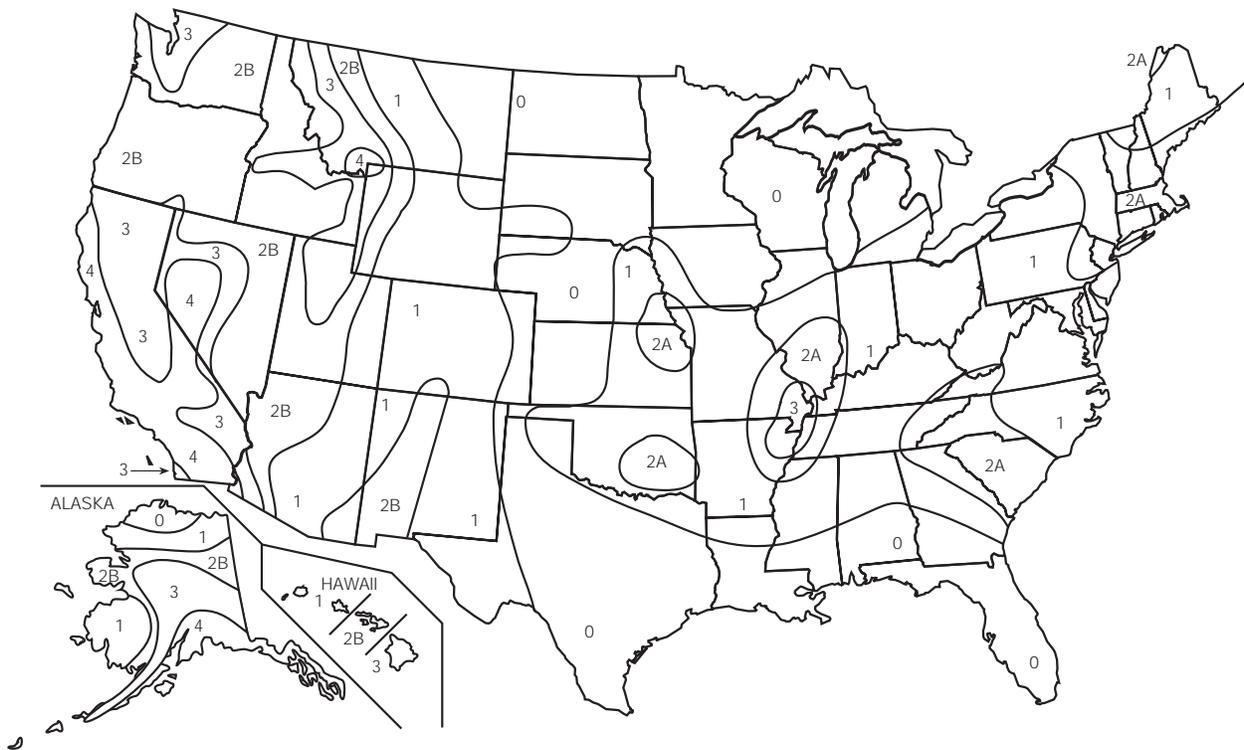

Figure 1-31
Figure 1-31 is a seismic zone map of the United States. The various zones are numbered 0 (little likelihood of damage) through 4 (likelihood of major damage) which indicate, on an ascending scale, the severity of damage likely as the result of earthquakes. The effects of seismic forces should be considered on vessels being installed in zones 1 through 4.
- The seismic zone (from Figure 1-31) in which the vessel will be installed.